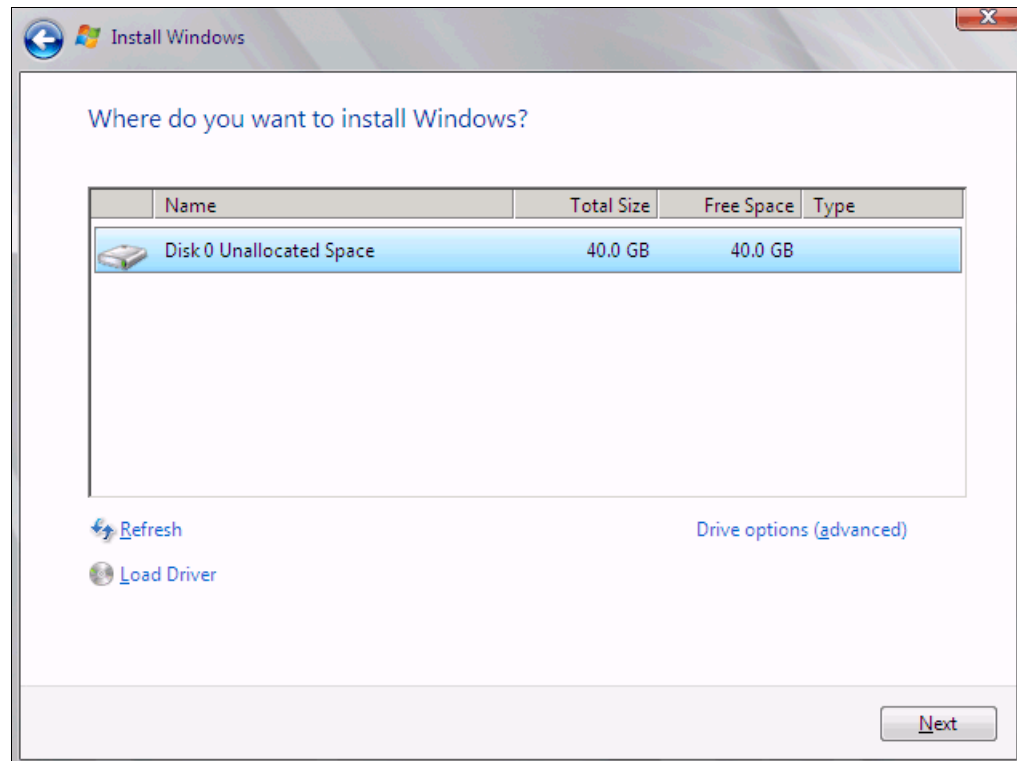

Figure 9-170 Selecting a disk to install
15. In the “Where do you want to install Windows” panel (Figure 9-170), when you see your LUN, select the disk, and then click **Next**.